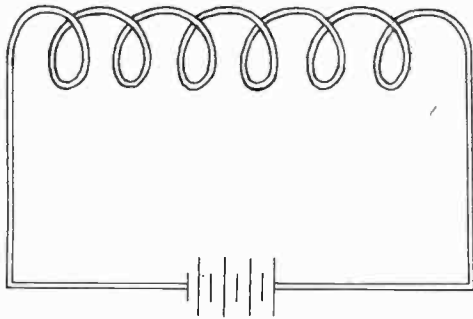

FIGURE 22
6. In the circuit shown in Figure 22, will the right end of the coil be the *North* or the South pole of the electromagnet?